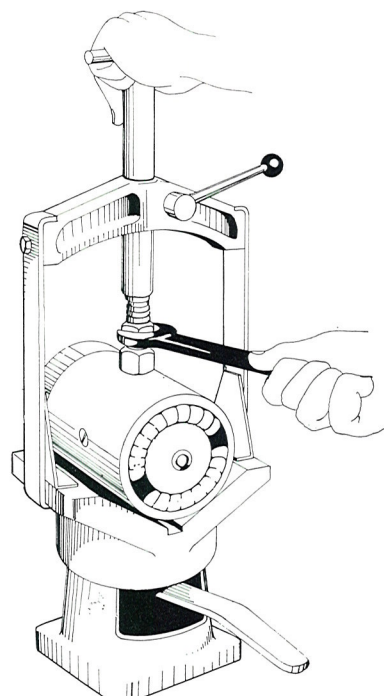

Fig. 3-43. Holding device for removing field winding
3. Then place the stator in the holding device as shown in Fig. 3-43 (Bosch EF AW 9) or similar and unscrew the pole screws.